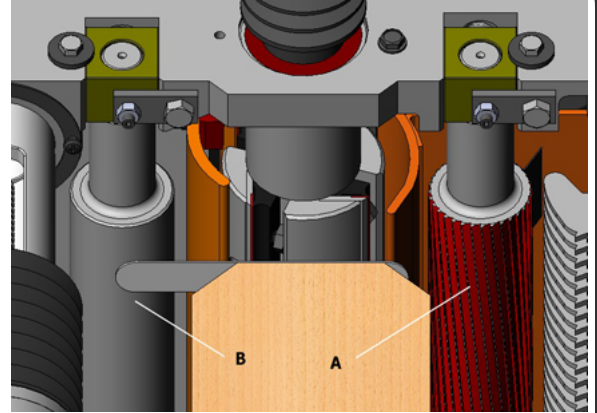

Fig. 20
The infeed roller (A) and the outfeed roller (B) are two of the major parts of automatic transmitting of planer. (Fig. 20).